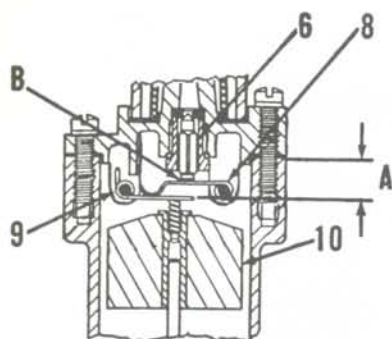

Fig. M7-3—Schematic view of float mechanism showing points of adjustment. Refer to text.
The recommended fuel level is approximately $\frac{1}{16}$ -inch below gasket surface of float bowl. To adjust the float, remove bowl cover (5) and refer to Fig. M7-3. Invert the cover and, with inlet needle (6) closed, measure the distance between primary lever (9) and gasket surface of bowl cover as shown at (A). This distance should be $\frac{1}{32}$ -inch; if it is not, bend the curved tang on secondary lever (8) until correct measurement is obtained. After adjustment is made, bend the vertical tang on primary lever (9) to allow a maximum clearance (B) of 0.040, between the secondary lever (8) and inlet needle (6). The contact spring located in center of float should extend $\frac{5}{64}$ -inch above top of float (10). Check to see that spring has not been stretched or damaged.